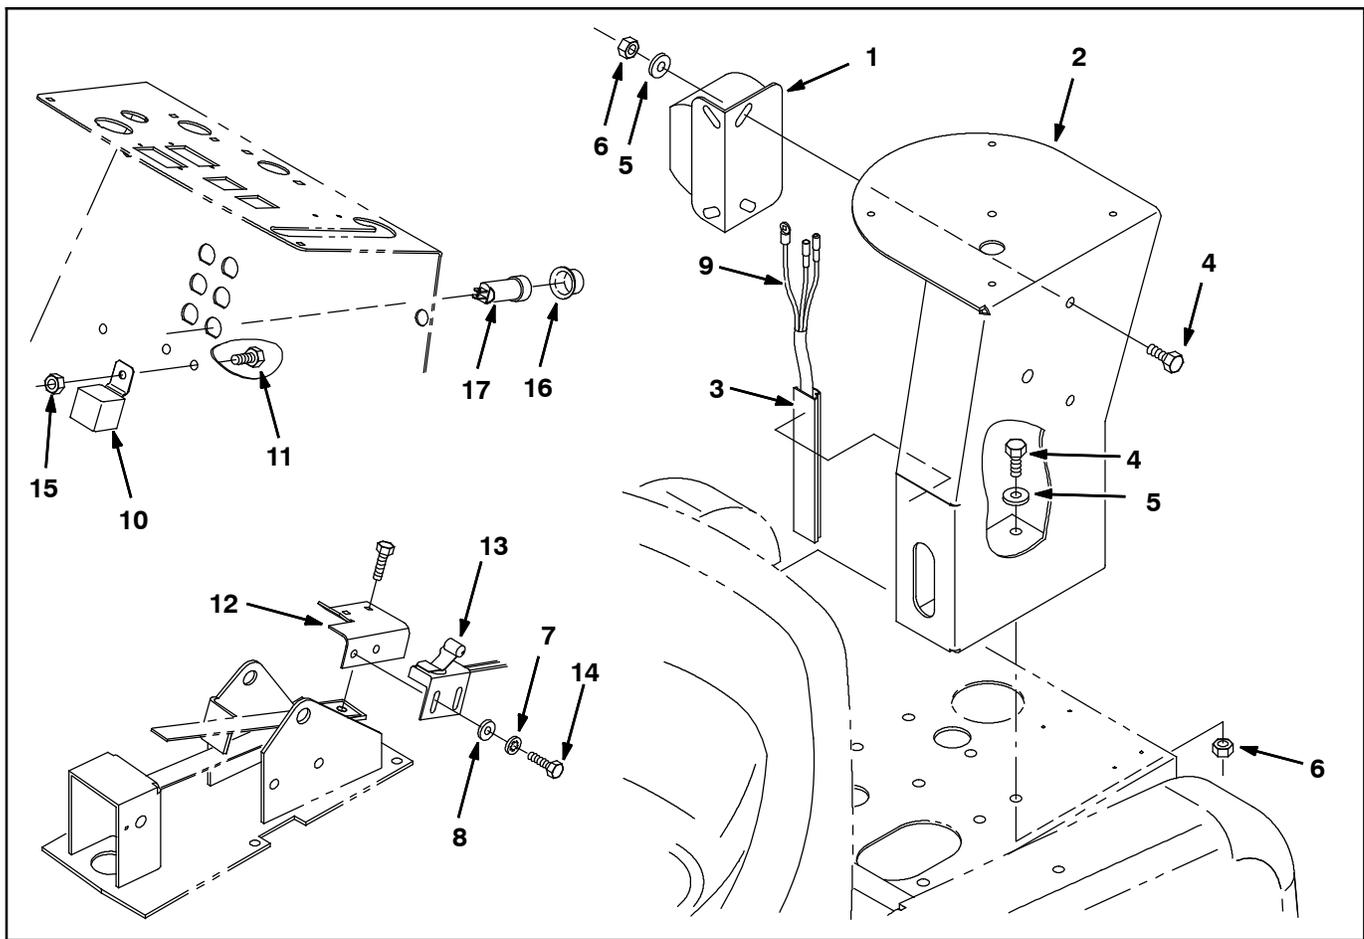
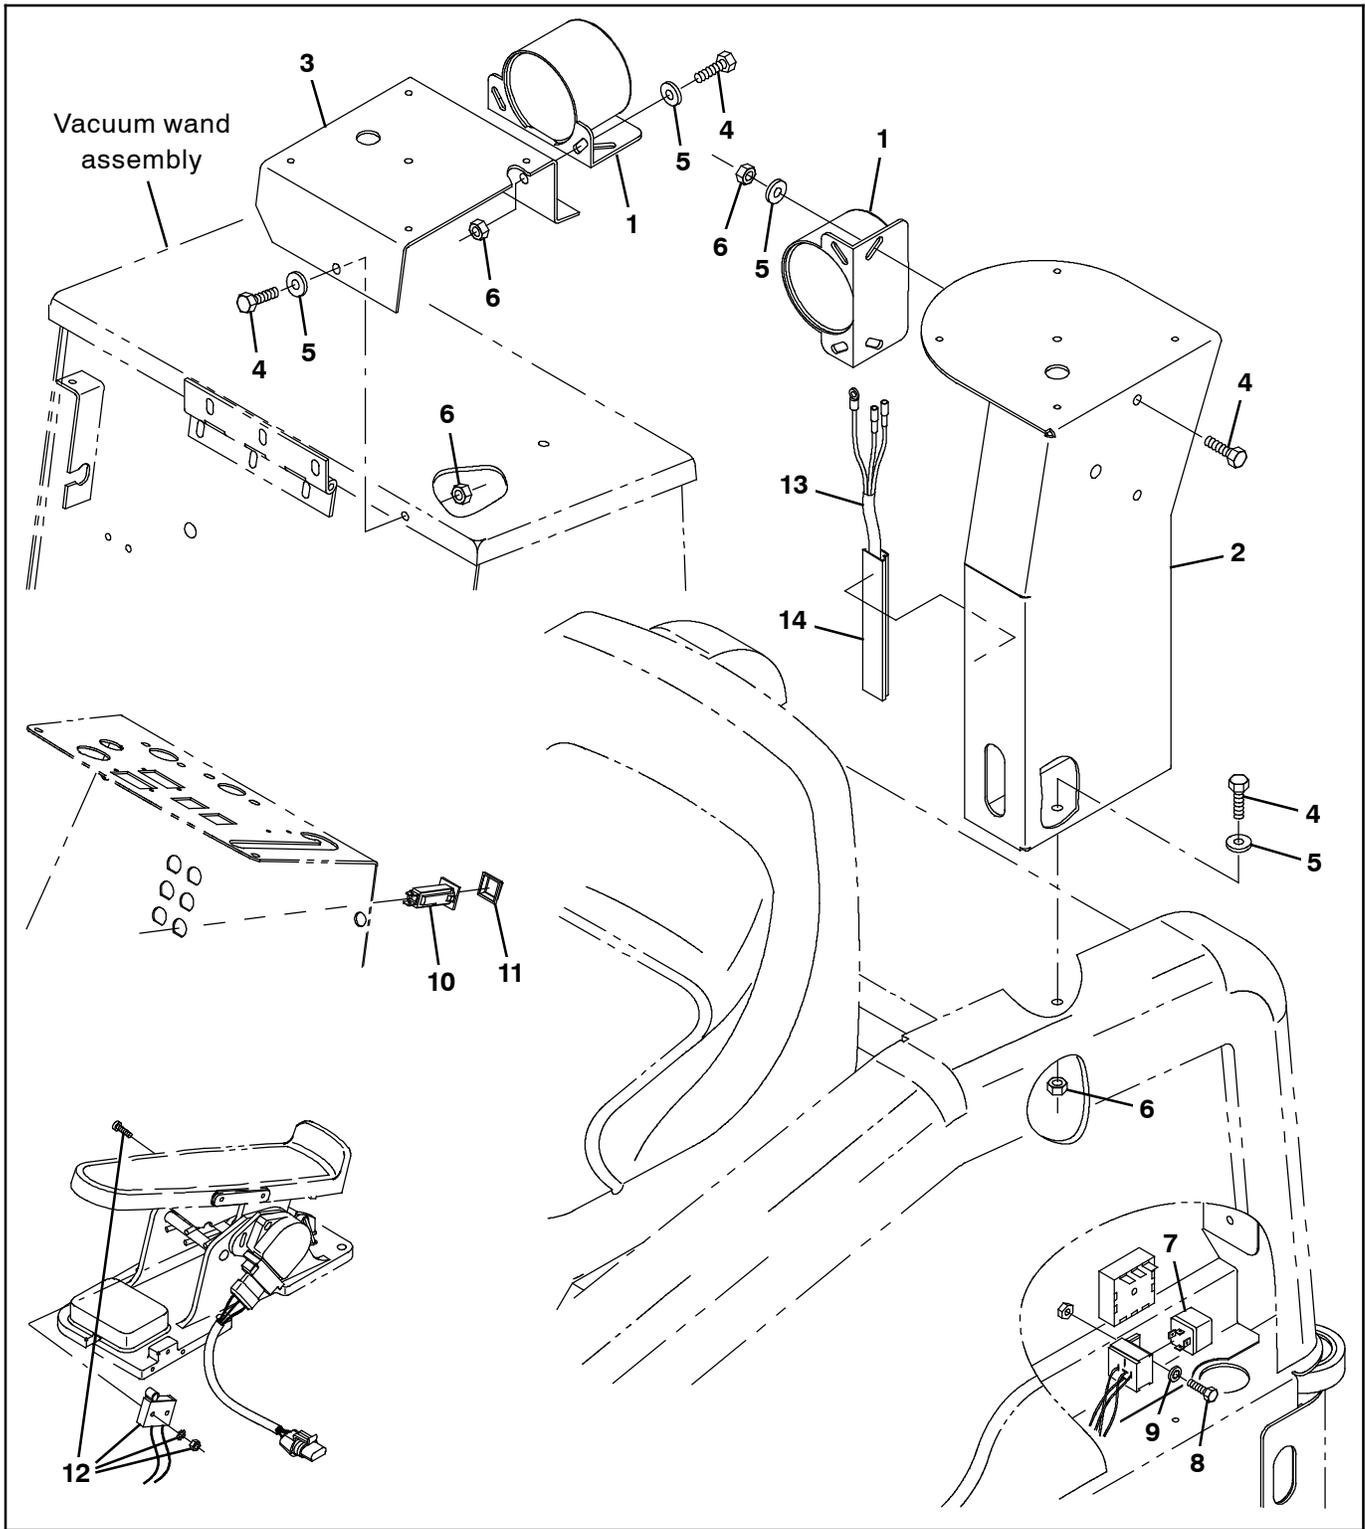
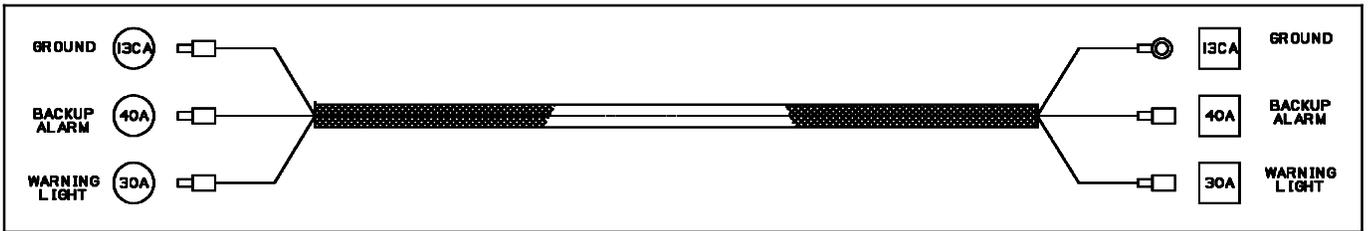
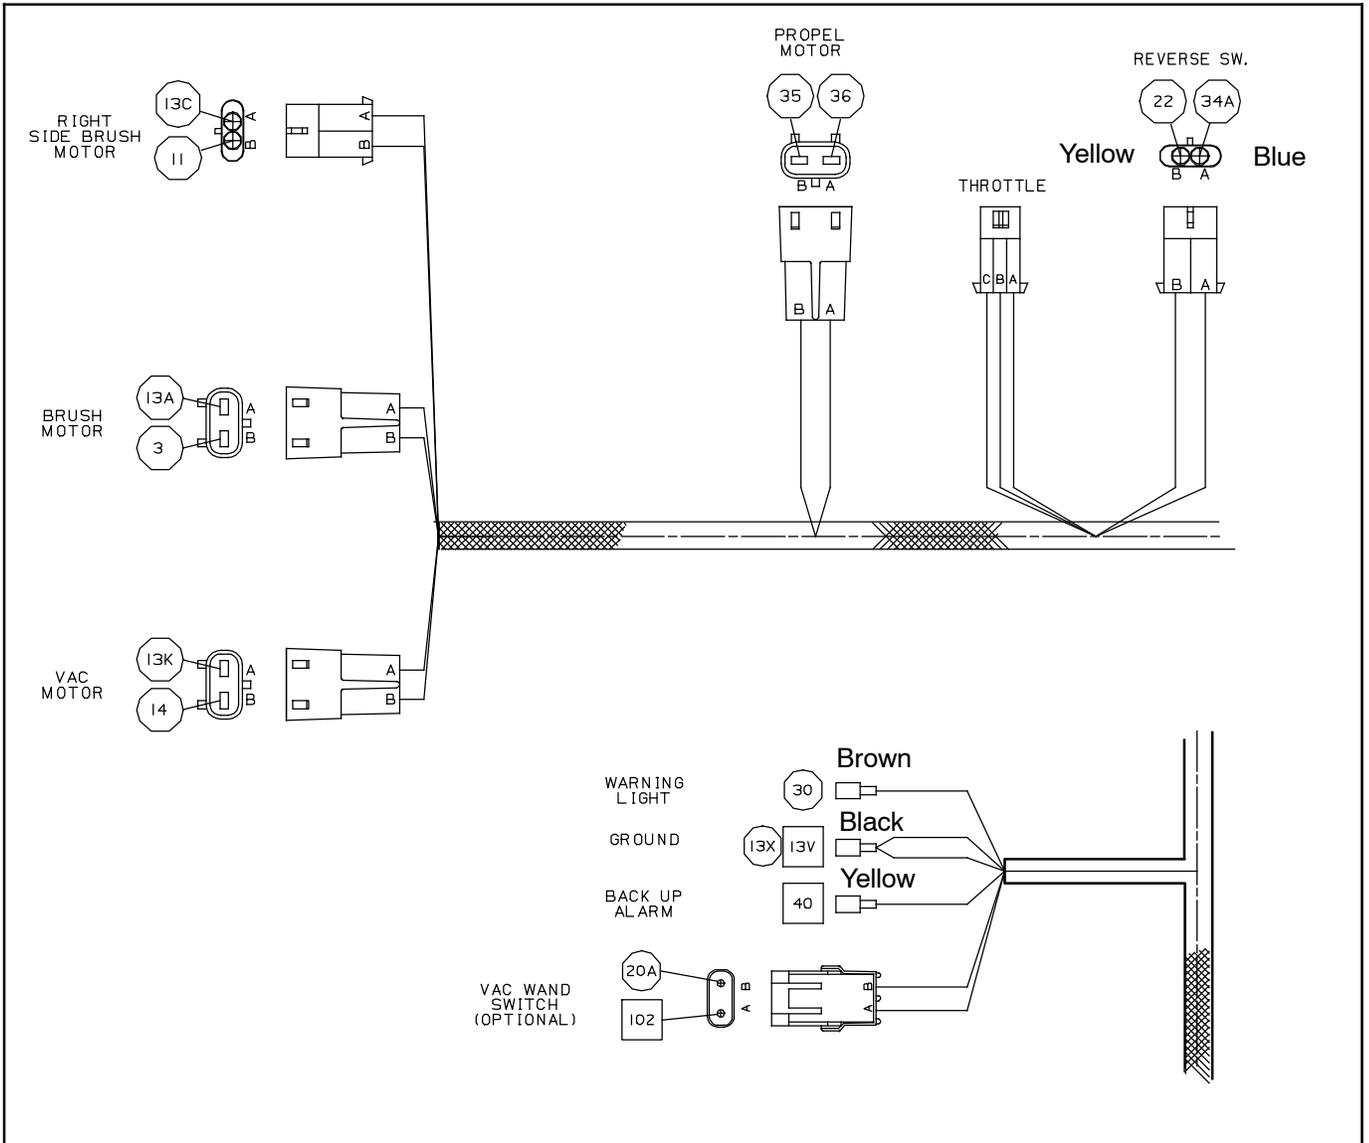

FIG. 1- Alarm Kit, Backup, Ped, CI [6100]- 83225
FIG. 3- Alarm Kit, Backup, CI [6100]-83253
FIG. 4
FIG. 5
1. Remove the debris hopper. Lower and remove the filter to access the mounting holes for the pedestal (2).
2. Use two hex screws (4), two washers (5), and two flange nuts (6) to mount the pedestal (2) to left rear corner of machine. (Fig. 1)
3. Connect the backup/warning harness (9) to the backup alarm (1). (Fig. 1 / Fig. 4)
4. Use mounting hardware to mount the backup alarm (1) to the pedestal (2). (Fig. 1)
5. Connect the backup/warning harness (9) to the main wire harness. (Fig. 1 / Fig. 5)
6. Open the circuit breaker panel and use a pan screw (11) and lock nut (15) to install the relay (10) onto the back side of the panel. (Fig. 1)
7. Install the 15- Amp circuit breaker (17) and circuit breaker boot (16) onto the circuit breaker panel. (Fig. 1)
9. Use the hex screws (14), lock washers (7), and flat washers (8) to mount the roller switch assembly (13) to the switch mounting bracket (12). (Fig. 1)
11. Mount the switch (13)/switch mounting bracket (12) to the propel pedal. (Fig. 1)
13. Connect the cable from the switch (13) to the main wire harness. (Fig. 1 / Fig. 4)
14. Install the vinyl duct (3) onto the pedestal (2) and insert the backup/warning harness (9) into the vinyl duct. (Fig. 1)
2. Use two hex screws (4), two washers (5), and two flange nuts (6) to mount the backup alarm (1) to the backup alarm bracket (3). (Fig. 3)
3. Connect the backup/warning harness (9) to the backup alarm (1). (Fig. 3 / Fig. 5)
4. Use two hex screws (4), two washers (5), and two flange nuts (6) to mount the backup alarm bracket (3) to the vacuum wand box. (Fig. 3)
5. Connect the backup/warning harness (13) to the main wire harness. (Fig. 3 / Fig. 5)
6. Open the circuit breaker panel and install the 15- Amp circuit breaker (10) and circuit breaker boot (11) into the circuit breaker panel. (Fig. 3)
7. Connect the main wire harness to the 15- Amp circuit breaker (10).
10. Use hardware included with the snap switch (12) Install the switch onto the propel pedal. (Fig. 2 / Fig. 3)
11. Connect the snap switch (12) wires to the main wire harness. (Fig. 3 / Fig. 4)
13. Remove the left side panel. (Fig. 3)
14. Use one hex screw (8) and interior lock washer (9) to install the relay (7) onto the electrical panel. (Fig. 3)